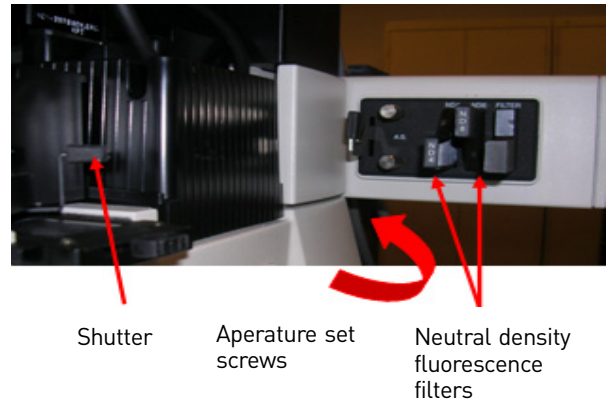

Figure 35 Fluorescence components.
3. Make sure that the shutter located in the fluorescence turret is in the Open O position (see Figure 35).
Center the aperture using the 2 set screws (see Figure 35).
7. Make sure that the two neutral density fluorescence filters located to the left of the EXFO cone are in their OUT position (see Figure 35).